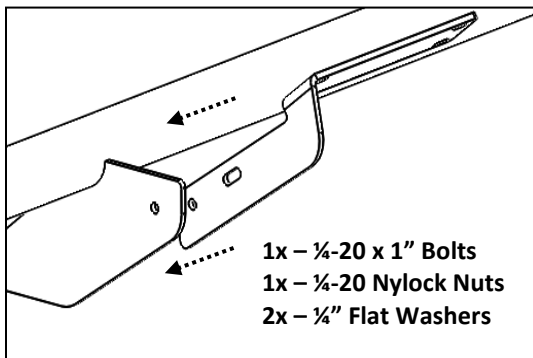

Figure 2: TREADPLATE Bolt-On Center Bracket for Treadplate Step
2. Attach the middle brackets on both the driver and passenger side using the 1/4" hardware as shown in **Figure 2**. **NOTE: Only bolt together the top hole and slot at this point, and be sure to leave everything slightly loose so you can adjust positioning if necessary while installing**